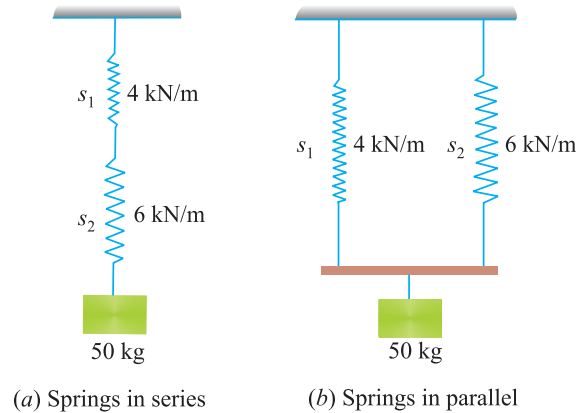

Fig. 26.3.
Now consider two helical springs, in series, as shown in Fig. 26.3 (a). We know that in this case, both the springs will be subjected to the same load.
**Example 26.6.** A block of mass 50 kg supported by two springs connected in series hangs from the ceiling. It can move between smooth vertical guides. The spring constants are 4 kN/m and 6 kN/m as shown in Fig. 26.3.